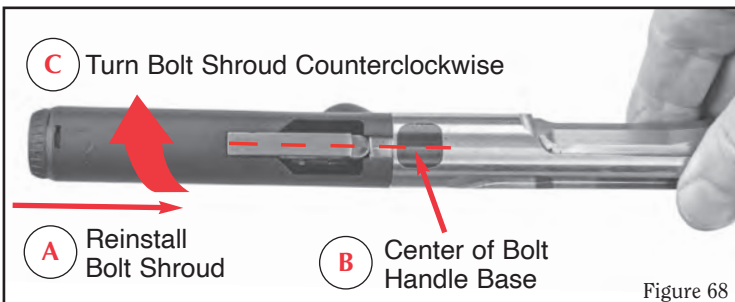
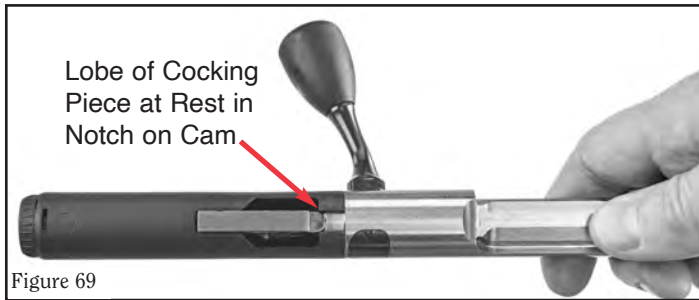

Figure 68
Figure 69
- a. Install the bolt shroud by sliding it over the end of the firing pin. Rotate the bolt shroud 30 degrees counterclockwise (see Figure 68) and the firing pin back will lock into the bolt in the at rest position (see Figure 69, p. 48).